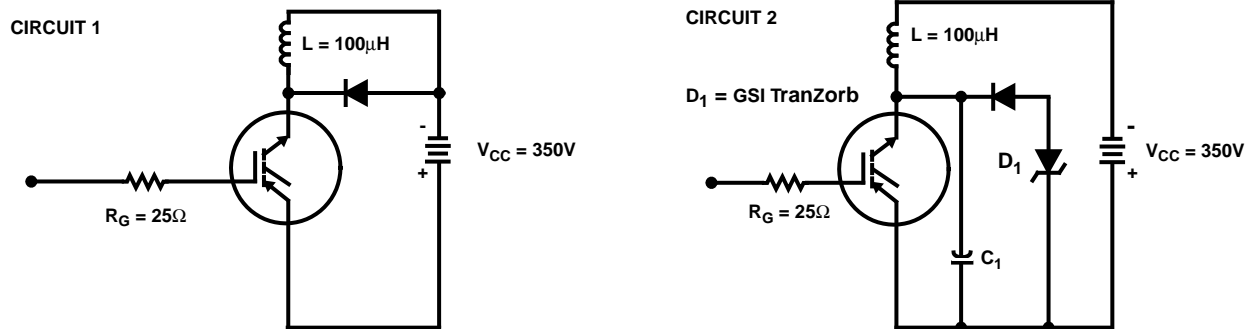

FIGURE 17. INDUCTIVE SWITCHING TEST CIRCUITS
1. $T_J = 25^{\circ}\text{C}$, $V_{CL} = 350\text{V}$, $R_{GE} = 25\Omega$, Figure 17 - Circuit 2 ($C_1 = 0.1\mu\text{F}$)